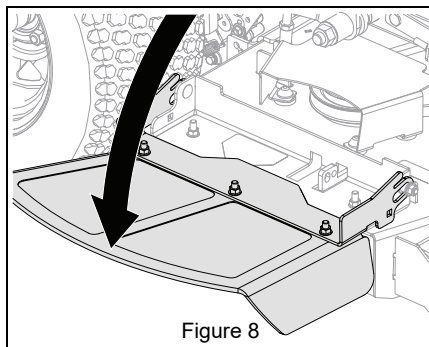

Figure 8
21. Lift discharge chute up slightly and rotate to operating position. See Figure 8.